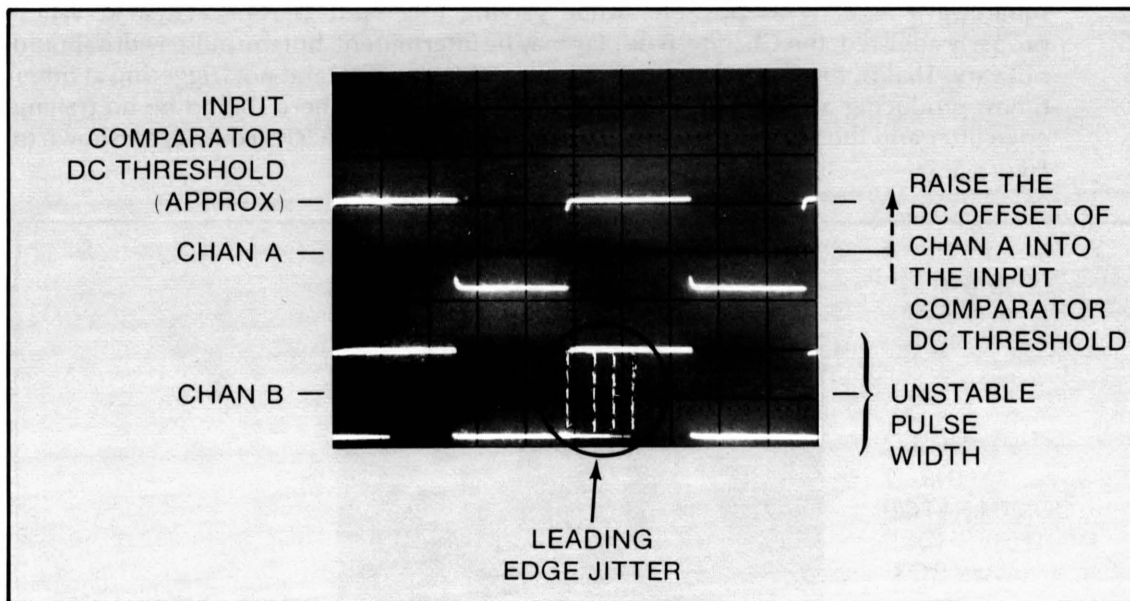

Figure 5-6. Over Compensated
- f. Repeat the procedures in steps d. and e., with the OFFSET VERNIER set to the fully negative position. Ensure that the comparator output snaps in cleanly, with no leading edge jitter, as the dc offset of the input signal is raised into the comparator threshold. Refer to Figures 5-6 and 5-7.